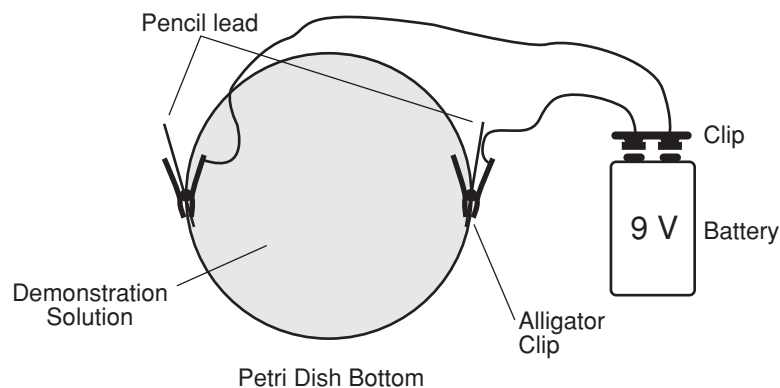

Figure 1. Demonstration Setup.
3. Break a pencil lead in half. Attach the two pencil leads to opposite sides of the Petri dish with the alligator clips on the battery cap. Connect the battery cap to the 9-V battery (see Figure 1).